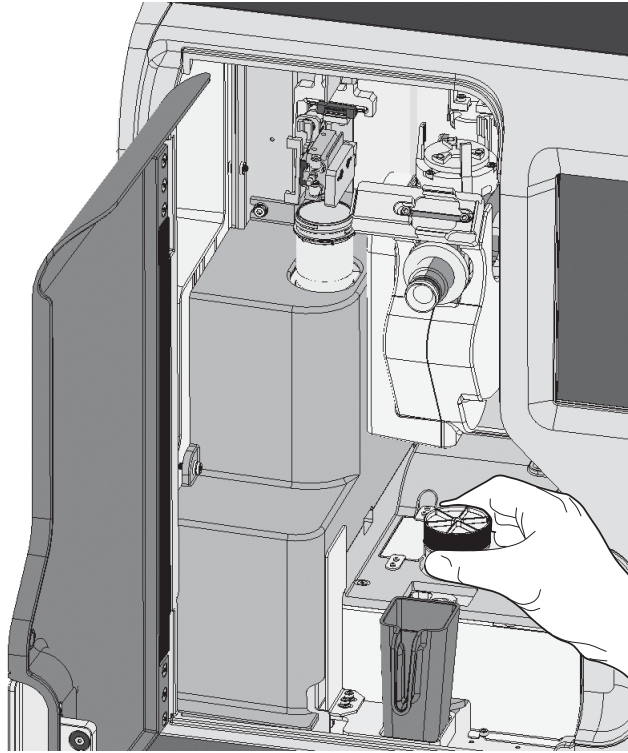

Figure 7-15 Load vial
3. Gently place the labeled, tightly capped PreservCyt vial containing the patient sample into the disperser cup until the bottom of the vial rests on the disperser cup base. Refer to Figure 7-15.